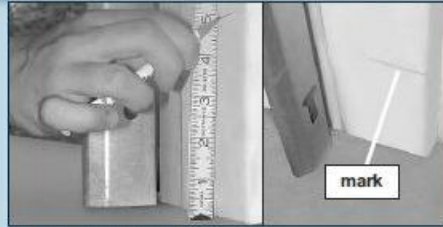

FIG 4-1 Mark door frame.
- Mark both sides of garage door frame or wall no higher than 6" and no lower than 5" above floor (Fig. 4-1).